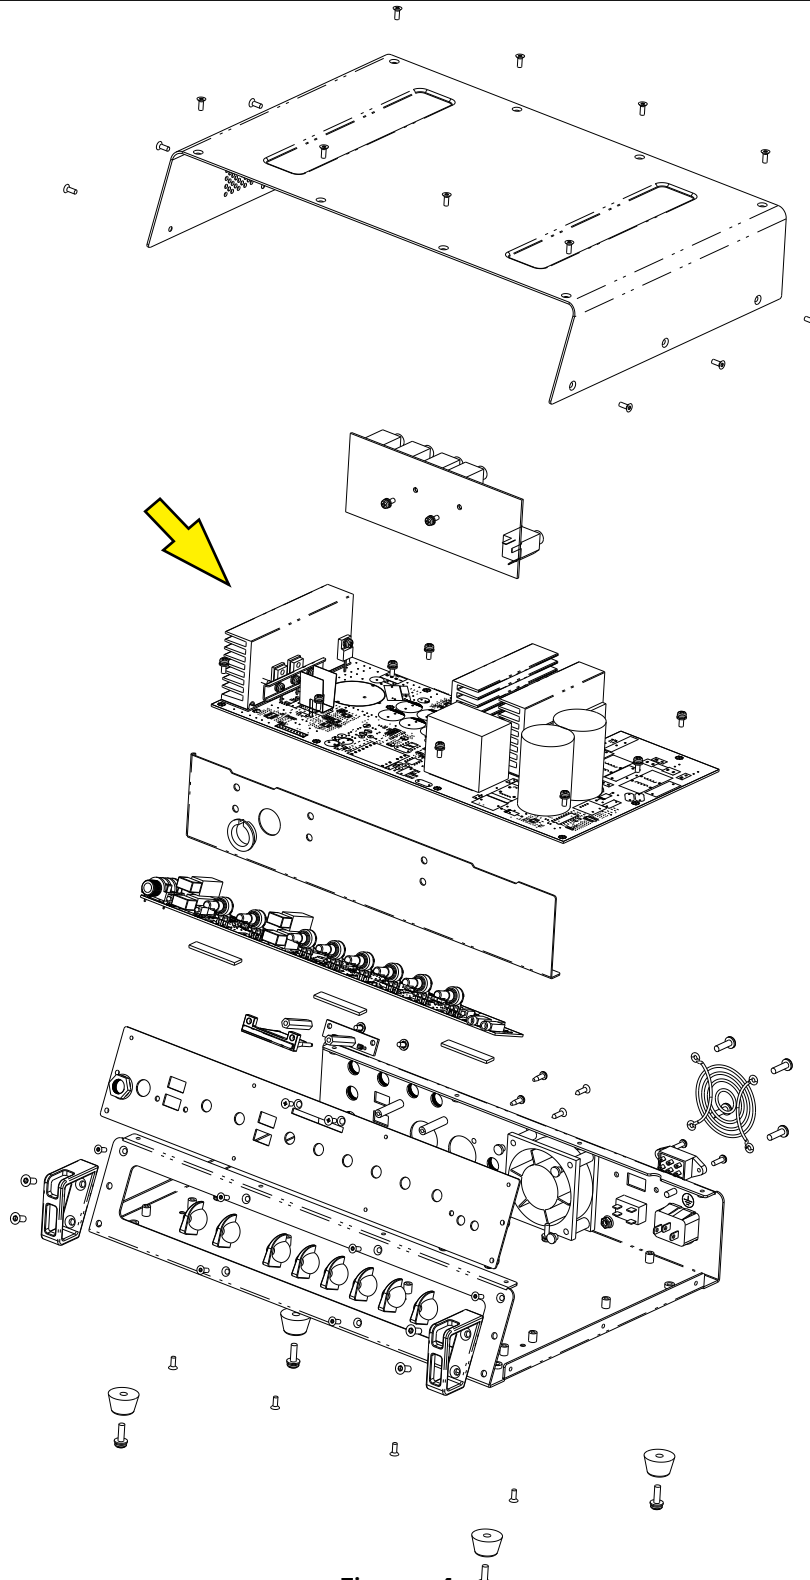

Figure 1a.
1. Disassemble unit, locate and remove board 2034544-XX as seen in figure 1a.